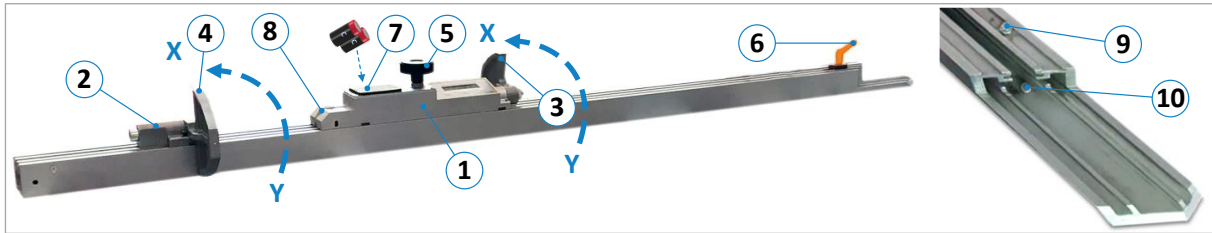

Figure 52: Tele-Digit components
- Open the battery compartment (7) shown in ⇒ Figure 52 and replace the two batteries.
- Move slider (1) all the way to the right against end stop screw (9) and clamp with clamping screw (5).
- Move the pull-out (2) all the way to the right against the end stop screw (10) and clamp it with lever (6).
- Move flip stop (3) to position X for slider (1) (see ⇒ Figure 52)
- Measure the distance between the saw blade and the flip stop (2) to the nearest 0.1 mm.